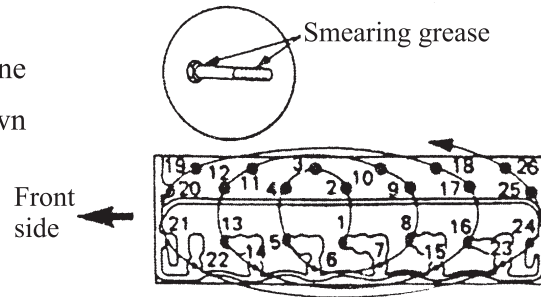

Fig. 1-10
(1) Tighten the cylinder head bolts one by one with 68 Nm moment according to the order shown in Fig. 1-10.